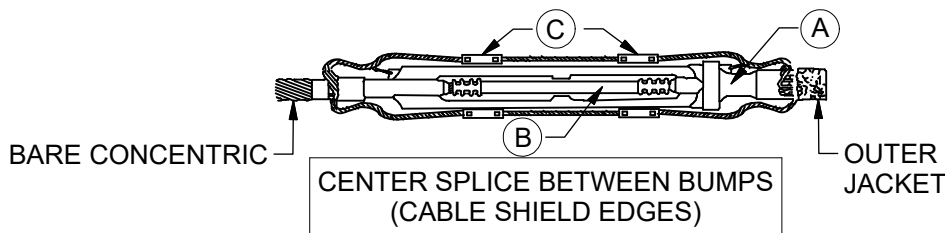

Figure 3
10. Twist the strands together and jumper across the splice using cable neutral wires and retained neutral wires. For single phase cables connect each bundle using two sleeves. See Figure 3. For three phase cables connect the bundle using one sleeve. Make sure that the neutral wires are against the splice body.